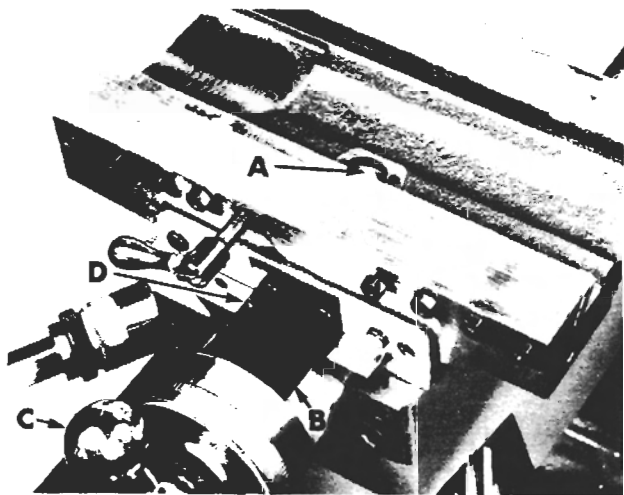
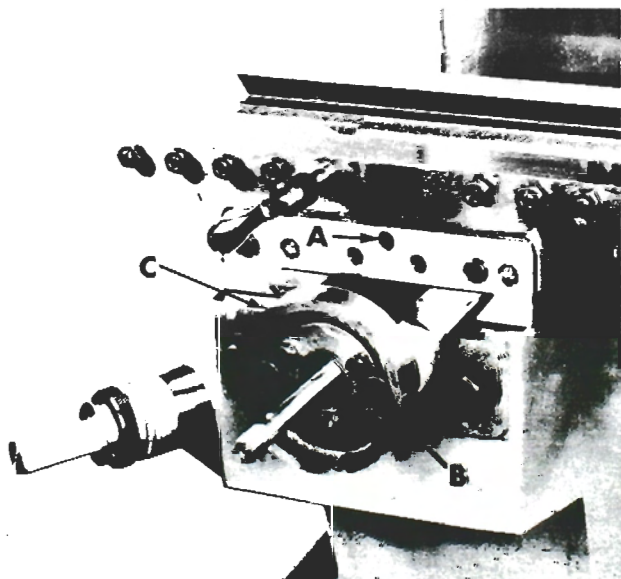

Figure 49
Figure 50
5. Remove acorn nut from saddle lead screw and pull off crank (C, fig. 49), key, dial and bushing.
6. Remove two socket cap screws (B, fig. 50) holding dial housing (C) to saddle and drive housing off roll pin.
8. Remove front cover (D, fig. 49).
9. With socket screw wrench, loosen screw (A, fig. 50) holding cross slide feed nut (A, fig. 49). Push nut down, remove from under knee, and remove saddle -- remove dust cover (B).